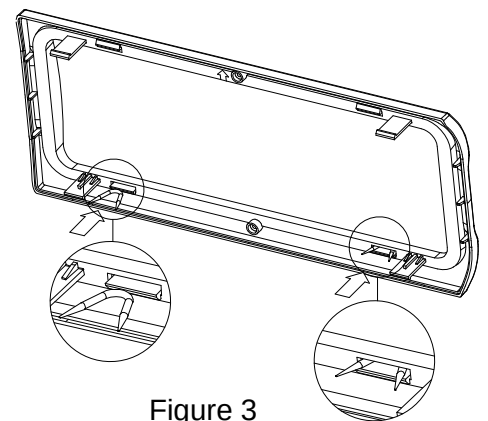

Figure 3
- Insert the 2 provided rubber blocks, as illustrated in the *figure 3*, on the retention hooks with lower protrusion; close the cover on the device by observing the alignment arrows.
- Re-assemble the transparent part on the cover and insert the 2 provided rubber blocks, as illustrated in *figure 3*, on the retention hooks with lower protrusion; close the cover on the device by observing the alignment arrows.